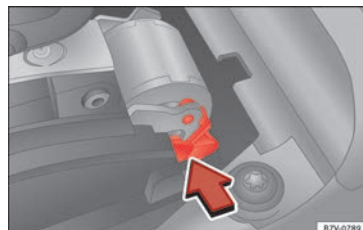

Fig. 50 Manual release of gear selector lever
- Press the release lever»» Fig. 50 in the direction of the arrow and hold it in this position.